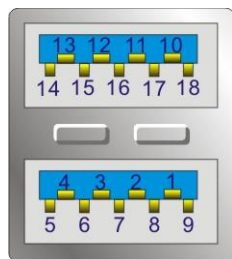

Figure 3-23: USB 5Gb/s Port Pinout Locations
- CN Pinouts:** See **Table 3-19** and **Figure 3-23**